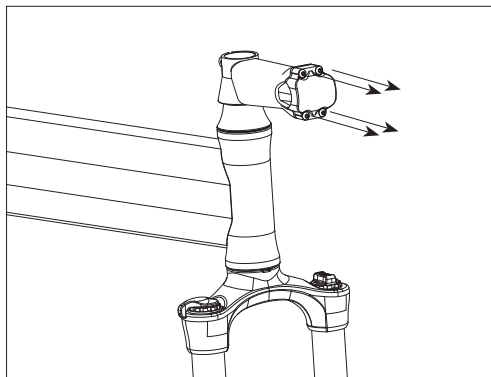

Fig. 12: Remove the stem clamp.
- Using the provided hex wrench, remove the two screws (or four, depending on model) holding the stem clamp in place (Fig. 12).